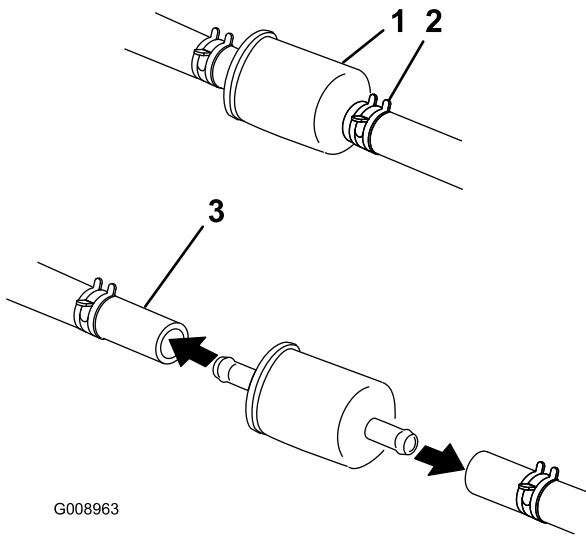

Figure 40
5. Squeeze the ends of the hose clamps together and slide them away from the filter (Figure 40).